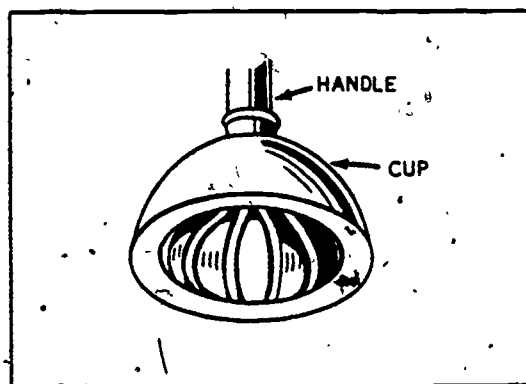

Figure 5-14. Vacuum plunger
*Using a vacuum plunger to clear drains.* When a sink, lavatory, or drain is completely stopped, a mechanical method must be employed to remove the obstruction. The vacuum plunger, shown in figure 5-14, is a simple tool that is often used to clear a sink, lavatory, or drain. This tool is also called a suction cup, force cup, or a plumber's friend. The vacuum plunger consists of a rubber bell-shaped suction cup, about 5 inches in diameter, which is fastened to a wooden handle. To use the vacuum plunger, partially fill the fixture with water and place the force cup over the fixture trap opening. Work the handle up and down several times to create alternate compression and suction pressures through the trap. Continue this action until the stoppage is cleared. When the fixture drains freely again, pour boiling water through the fixture (only cold water through vitreous china fixtures) to flush the trap and waste line.